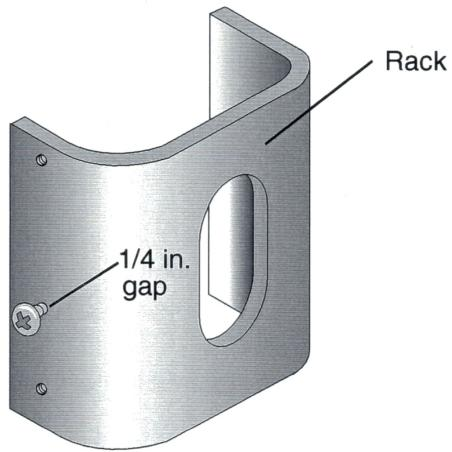

Figure 5 Keyhole Slot Screw with Threads Engaged, and a Gap Adequate to Fit the Mounting Bracket
2. Advance the screws so that several turns of thread are engaged, but there is adequate gap between the screw head and the rack frame to fit the thickness of the mounting brackets of the Mi7 equipment; about 1/4-inch (6 mm). See Figure 5.